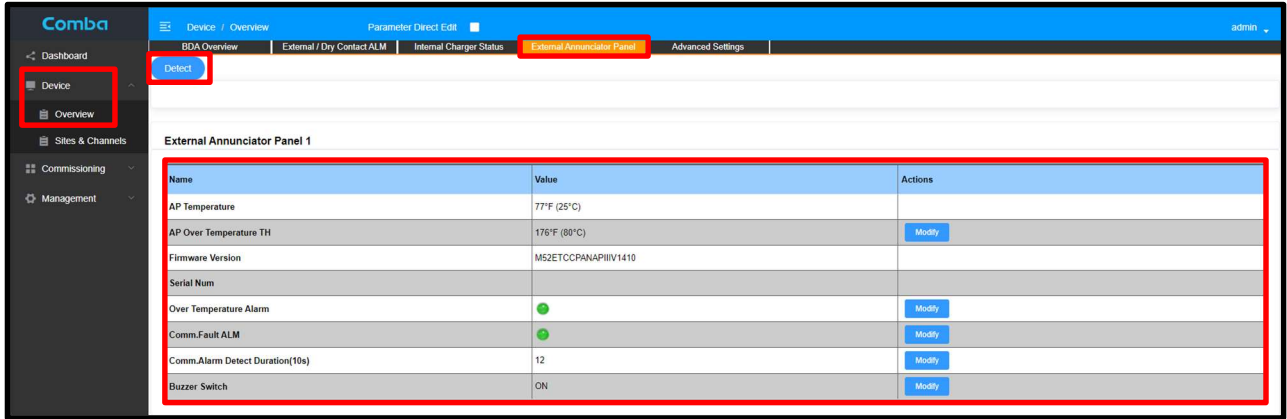
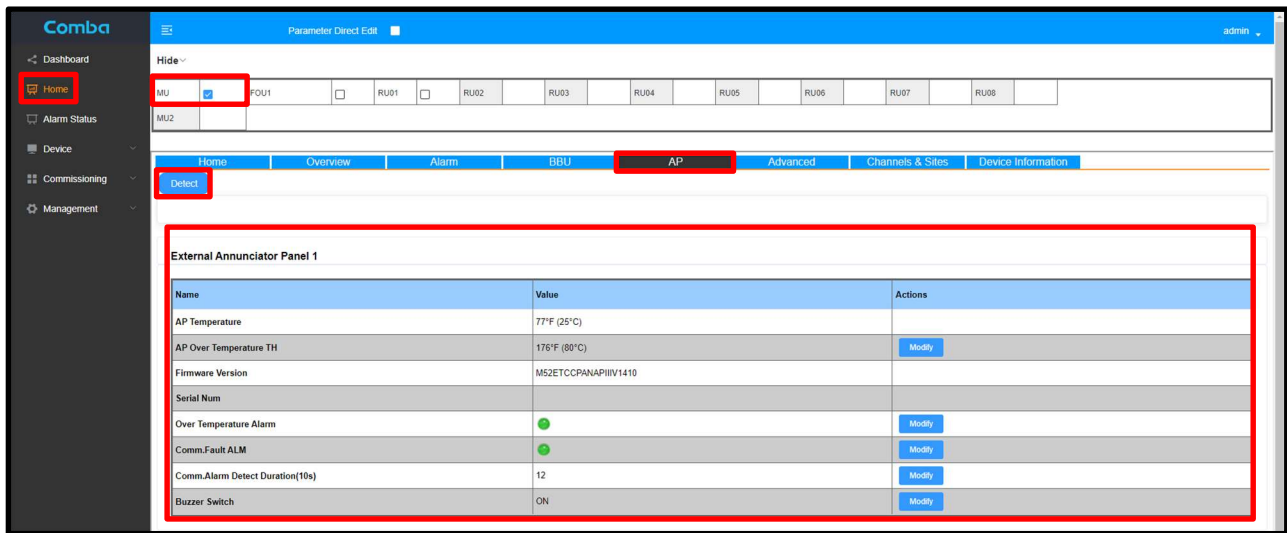

Figure 44: Commissioning V3 AP in BDA mode
Figure 45: Commissioning V3 AP in DAS Mode
- For BDA mode, Figure 44 below, navigate to Device -> Overview -> External Annunciator Panel. For MU mode, Figure 45 below, navigate to Home -> MU -> AP. For RU, Navigate through the MU to Home -> RU -> AP.